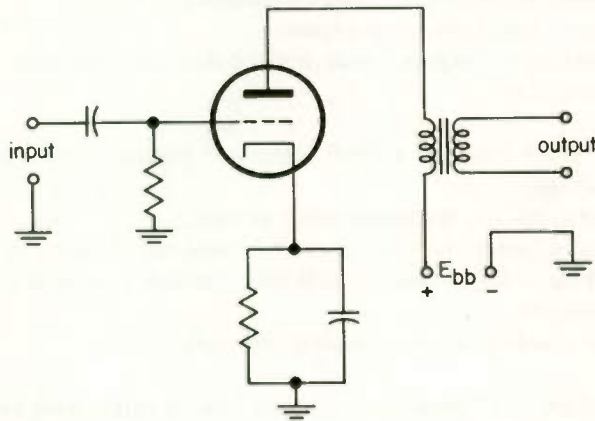

Fig. E.8
- (1) maintained at a positive voltage with respect to the emitter.
- (2) forward-biased with respect to the base.
- (3) reverse-biased with respect to the base.
- (4) maintained at the same potential as the emitter.
79. Identify the circuit in Fig. E.8.